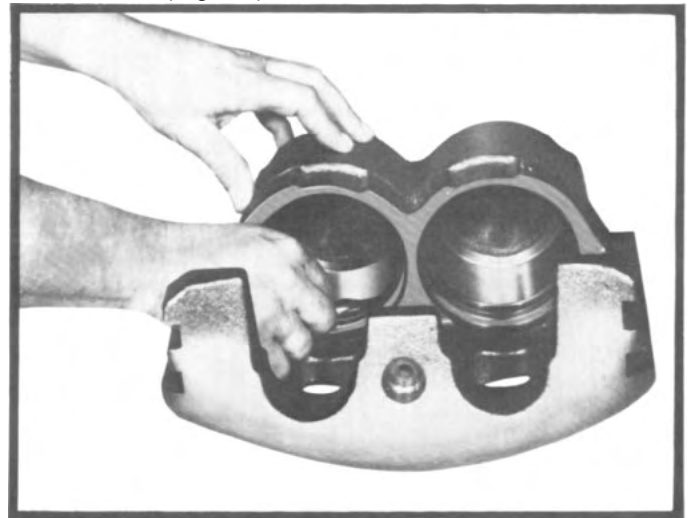

Fig. 30—Removing piston seal.
(7) Remove and discard the piston boots.
(8) Use a pointed piece of wood or plastic to remove the piston seals from the groove in the caliper bore and discard. (Fig. 30)